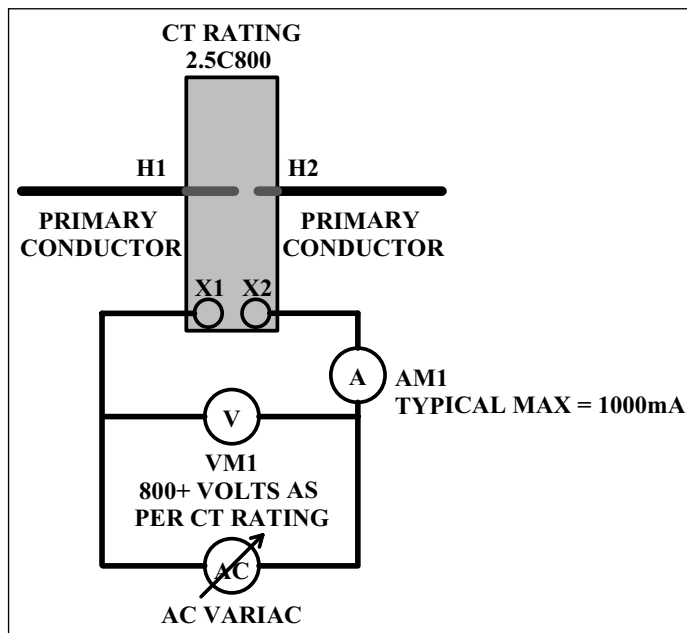

Figure 7 — Excitation Test Connection
3. Connect the test equipment per Figure 7 to the first CT scheduled for test.